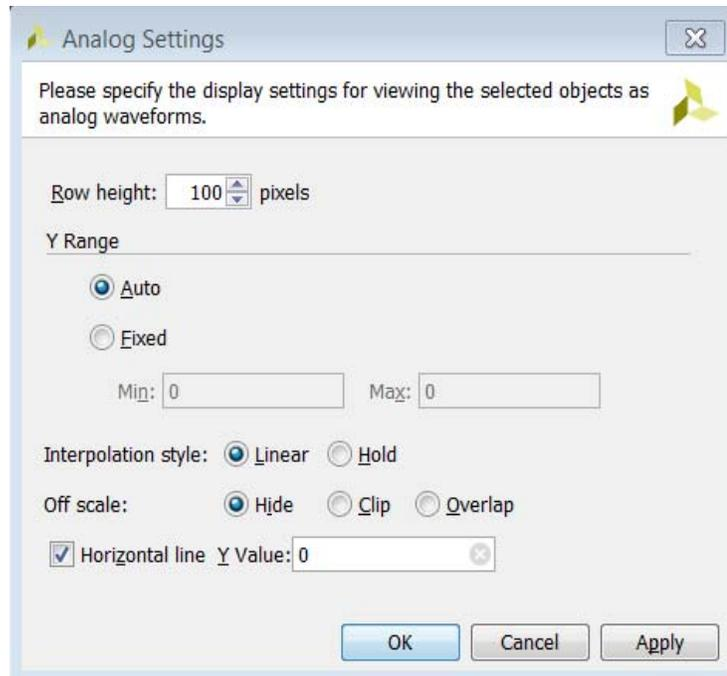

Figure 4-2: Analog Settings Dialog Box
- Analog Settings: Opens the Analog Settings dialog box (shown in Figure 4-2), which provides options for the analog waveform display.